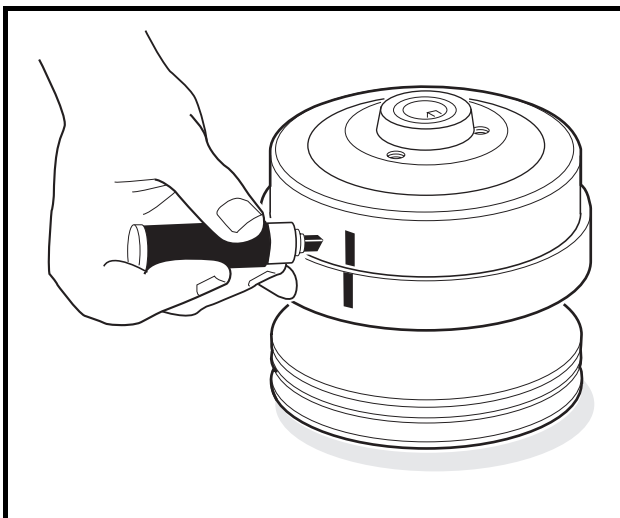

Figure 17-8 Mark Drive Clutch Hub
- The drive clutch is balanced as an assembly. Before disassembly, make match marks on the drive clutch hub and on the moveable face assembly so they can be reassembled in the same positions (Figure 17-8, Page 17-7).
1. Make match marks on the drive clutch hub and on the moveable face casting (Figure 17-8, Page 17-7).